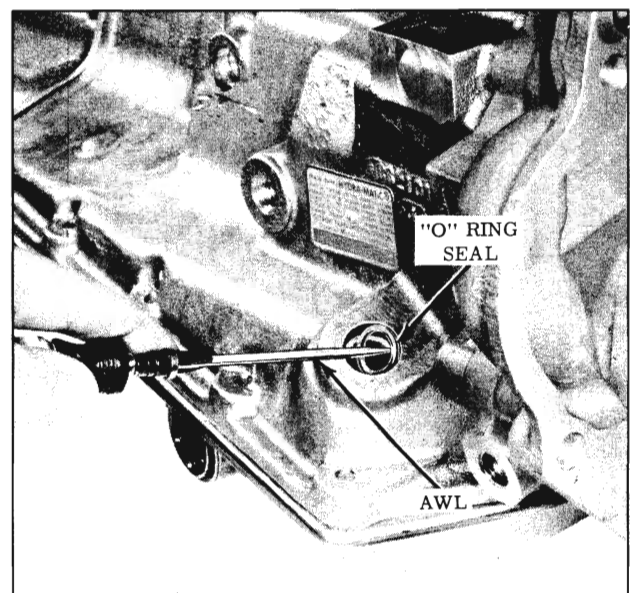

Fig. 3-220 Removing Filler Pipe "O" Ring Seal
1. Remove the transmission filler pipe "O" ring seal from side of transmission case before installing transmission in fixture. (Fig. 3-220)